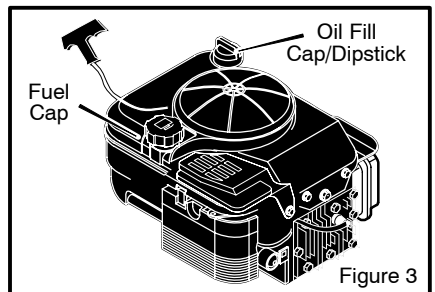

Figure 3
1. Remove the oil fill cap/dipstick shown in Figure 3. Fill the crankcase to the **FULL** line on oil fill cap/dipstick. **DO NOT OVER-FILL.**